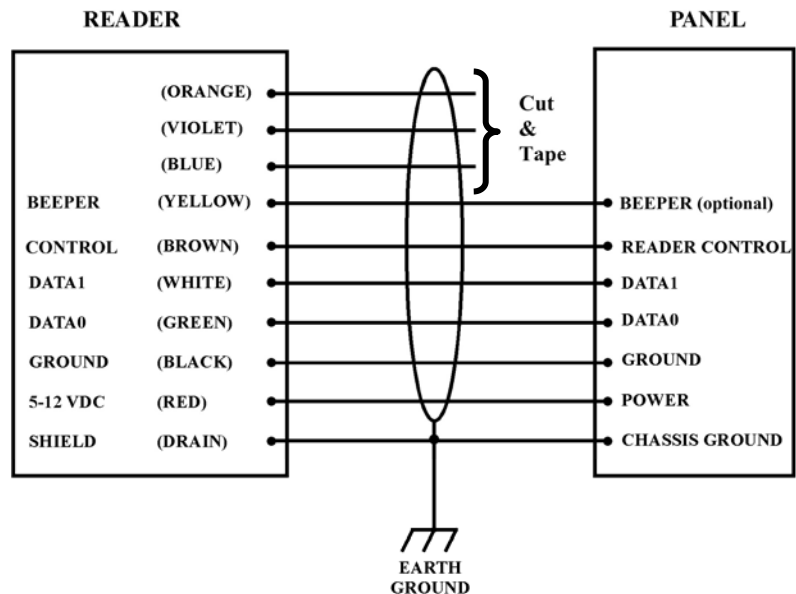

FIGURE 2. Wiring Diagram (Wiegand)
3. Connect the reader's ground, Data-0, Data-1, Reader Control, and power (see Figure 2). Connect the *yellow* wire only if used for Beeper control by the panel. **Do not connect** the *orange, blue, and violet* wires to anything. **Tape or cap** the unused wires separately.
Note: The number of conductors depends upon use of the optional Beeper control. See Figure 2.